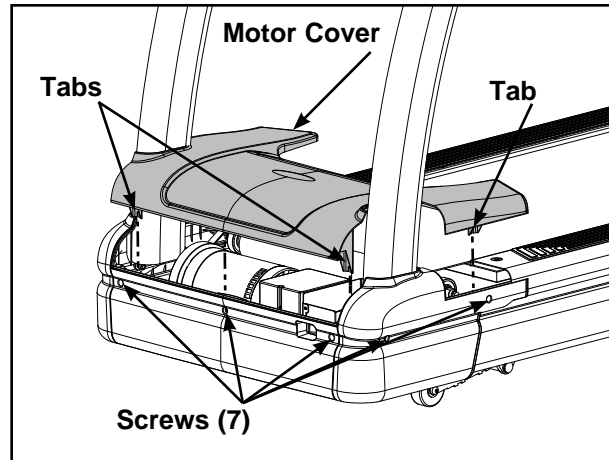

Figure 7
- A. Using a Phillips screwdriver, loosen the seven screws on the front motor cover and each motor cover side (left and right). See Figure 7.
- B. Lift the motor cover up and off the treadmill. The screws will stay in place. See Figure 7.